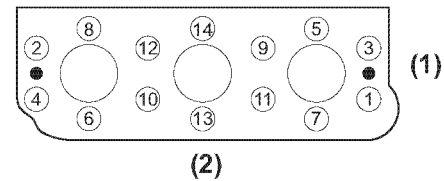
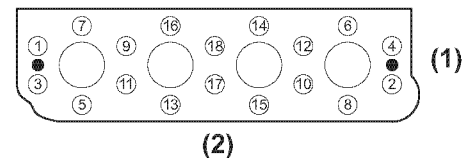

Figure 5-41
Figure 5-42
- Loosen the cylinder head bolts in two steps in the illustrated order (**Figure 5-41**) and (**Figure 5-42**).